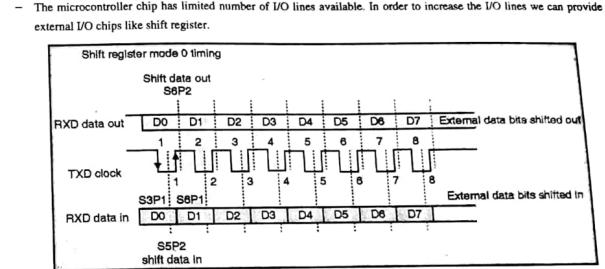

Fig. 3.5.2 : Shift register mode 0 timing
- The input to the shift register is data and clock. The serial data is transmitted and received through the RXD line. The clock is generated by the TXD line. The TXD shift clock is a square wave, low for states S3, S4 and S5 of the machine cycle, while high for S6, S1 and S2 as shown in Fig. 3.5.2.